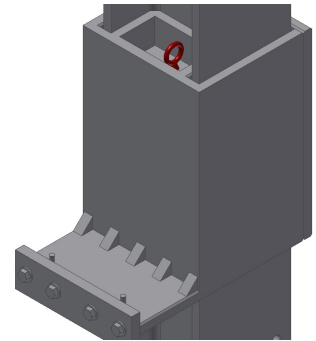

Figure 8
10. Finally with power connected to the electric hoist, use the pendant switch to lower the hook until it touches the Eyebolt at the top of the Clamp Head Assembly. Connect this hook through the Eyebolt (Figure 8).